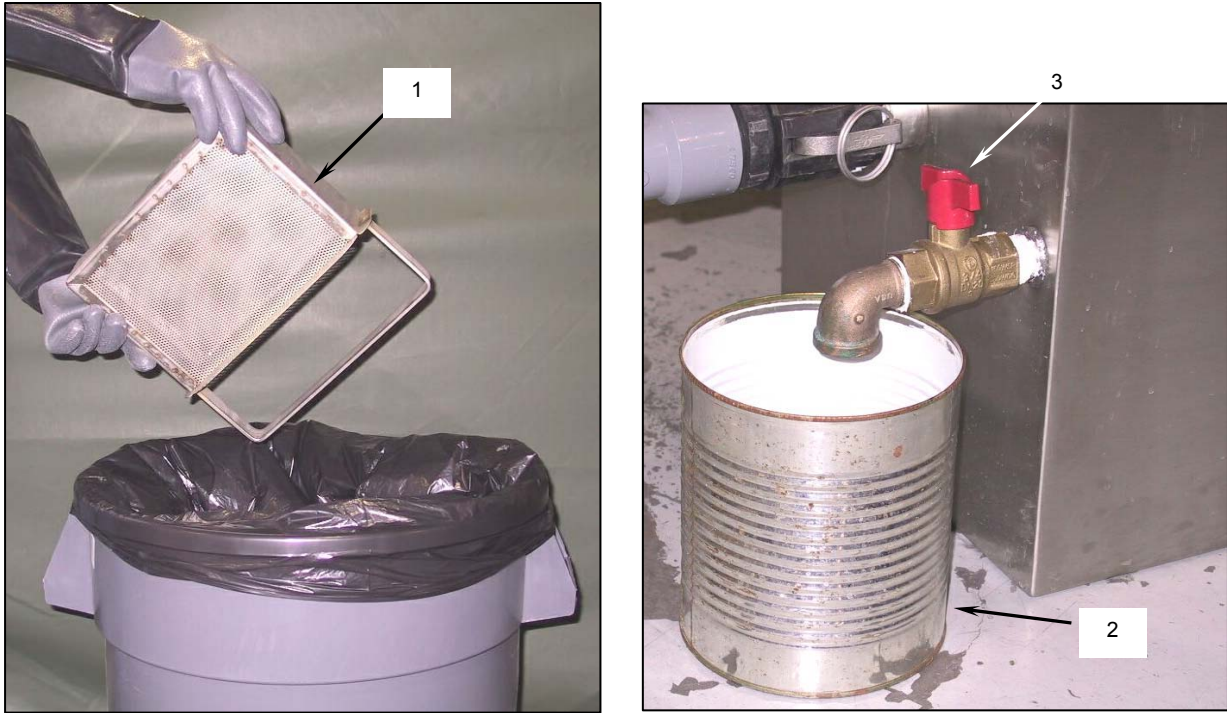

Figure 29. Removing Solids and Grease from the Grease Separator.
- b. Remove the strainer basket (**Figure 29, Item 1**) from the grease separator and empty the collected solids into a trash receptacle.
- d. Place a #10 can (**Figure 29, Item 2**) under the grease removal valve spout.
- e. Open the grease removal valve (**Figure 29, Item 3**) and drain the surface grease from the grease separator into the can, then close the valve. Repeat as many times as necessary until all the grease is removed.